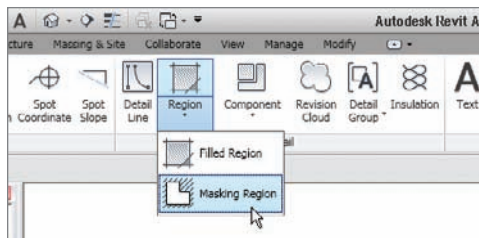

FIGURE 12.6 Region > Masking Region on the Annotate tab
2. On the Detail panel of the Annotate tab, click Region > Masking Region, as shown in Figure 12.6.